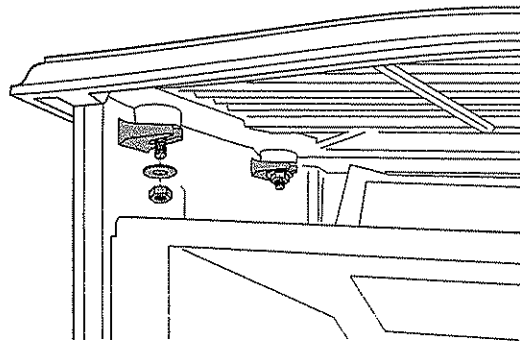

Figure 10. Remove the nuts that secure the top plate.
2. Remove the top plate. Fig. 10.